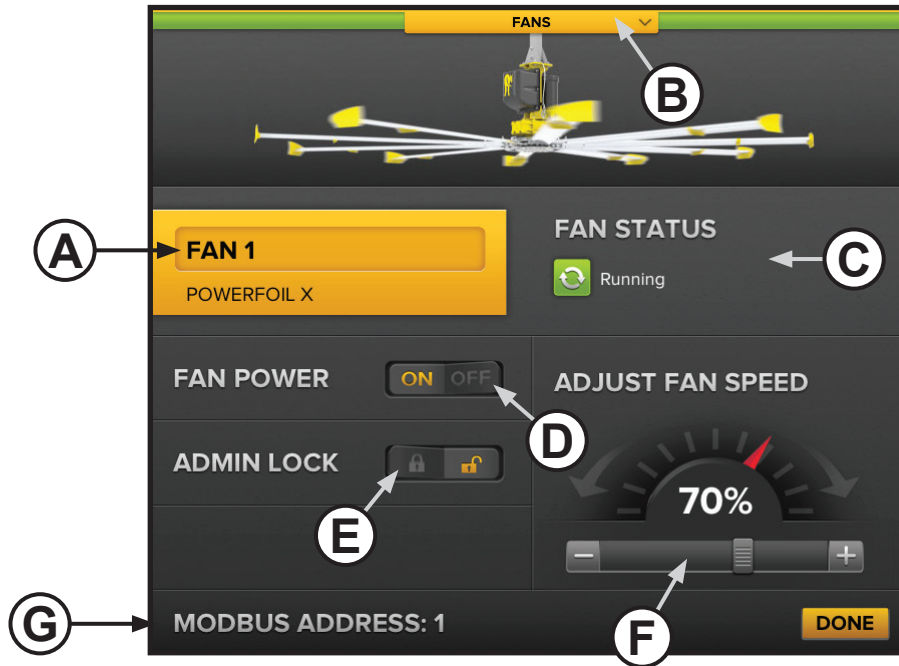

Figure 1–Fan settings page
3. Select the fan. The fan settings page appears (Figure 1).
4. Adjust the settings as necessary, and then touch **Done**. See Figure 1 below for details.